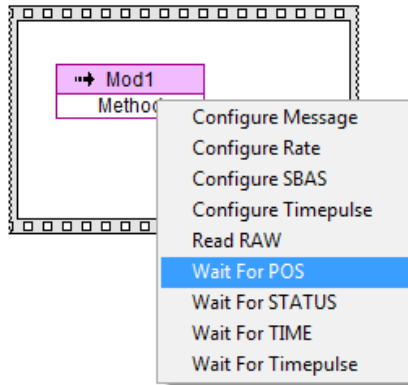

Fig. 6: Quick Start – Create method node
- 14. Select the method *Wait For POS* (Fig. 6).